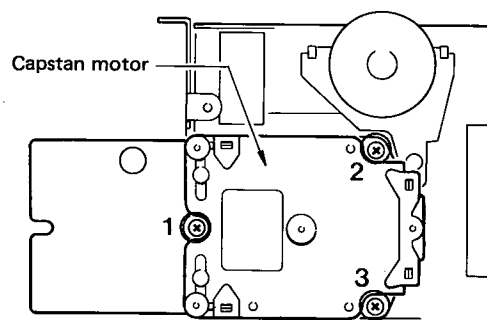

Fig. 14
- Remove screws ① through ③ in fig. 14 and then replace the capstan motor.